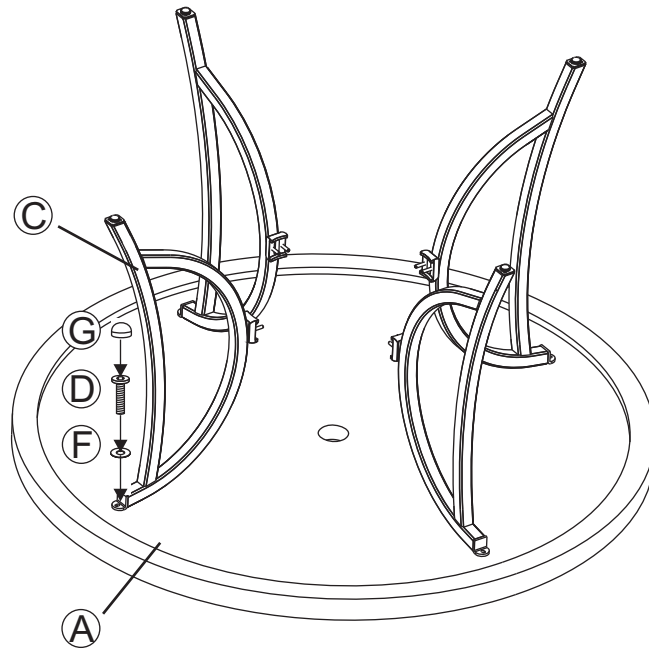

Figure 1
Step 3: Important: We recommend 2 people work together to assemble the chair. Note the arrow labels on the "U" bar and the rocker assembly. Also note the horseshoe shape of the rocker plate. Point the open end of the horseshoe away from you. The arrows on the rocker assembly should be pointing towards you. Set the chair frame on the rocker assembly with front of the seat facing you and the arrows on the "U" bar pointing towards you as shown in *Figure 1*. This is very important for a safe, balanced rocking motion. **If chair frame has been properly positioned on the rocker assembly, all arrows on the "U" bar and rocker assembly will be pointing in the same direction.**
Step 4: Critical Step: The "U" metal plates must be installed in the proper location. Read this step and carefully examine. Insert the "U" metal plate, so that the "U" bar and rocker plate are between both sides of the "U" metal plate. Make sure that the holes in the "U" metal plate are completely aligned with the holes in the "U" bar as shown in *Figure 1*. Guide the bolts through the holes on the top side of the "U" metal plate, through the holes in the "U" bar portion of the chair, through the holes in the rocker plate and then, most importantly, through the holes in the bottom side of the "U" metal plate. It is very important that the holes in the bottom portion of the "U" metal plate be placed directly beneath the holes in the rocker plate. Add a spring washer and a nut to each bolt as shown in *Figure 2*. **Hand tighten nuts 3-4 revolutions only.** Repeat the same procedure on the other side.
- 1 Place the table top upside down on a flat, non-abrasive surface. Attach a table leg to the table top by using the bolts and washers as shown in the **Figure 1**. Guide the bolts through the holes in the table leg, into the pre-drilled holes in the table top. **Hand tighten 2-3 turns only**. Repeat for the other three legs.